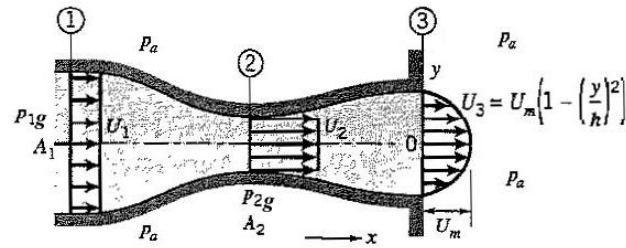

Figure P3.40
3.40 Air of constant density ρ flows steadily into a rectangular duct of constant width W , as shown in Figure P3.40. There is inflow over area $A_1 = 3hW$ and outflow over area $A_3 = 2hW$. Area $A_2 = hW$. Across A_1 and A_2 the velocities are constant and equal to U_1 , and U_2 , respectively, as shown. Across A_3 the velocity distribution is parabolic with a maximum value of U_m . Over area A_1 the gauge pressure p_{1g} , over area A_2 the gauge pressure is p_{2g} , and over area A_3 the pressure is atmospheric. There are no losses. *ajsCan't apply Bernoulli here!*